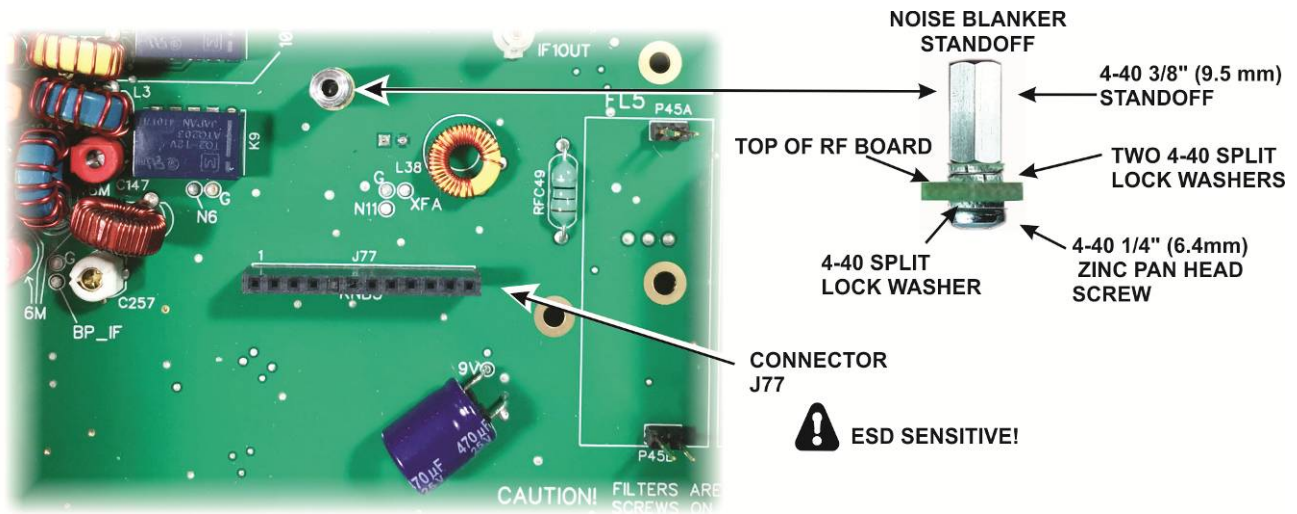

Figure 88. Installing Noise Blanker Standoff.
- Install the standoff for the noise blanker as shown in Figure 88. The location of J77 is to the left of crystal filter position FL5 on the RF board. Be sure to put *two* split lock washers between the standoff and the RF board as shown.